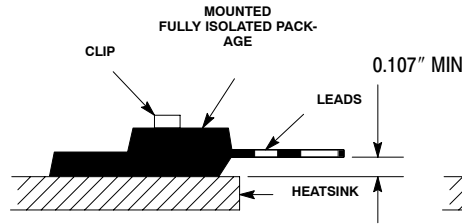

Figure 4. Clip Mounting Position for Isolation Test Number 2
(1) UL Recognized mounting method is per Figure 4.